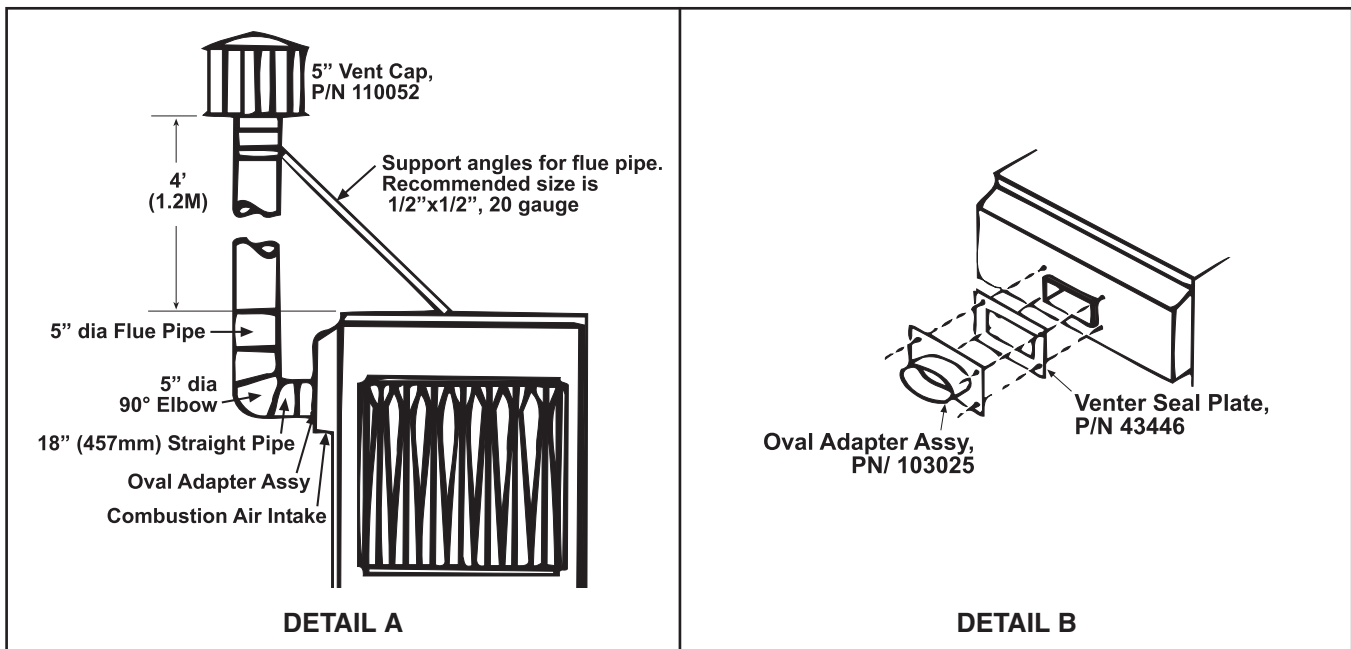

Figure 7. Optional Vertical Flue Discharge
- **Optional vertical flue discharge (option CC3):** These power vented furnaces are certified with 4 feet of vertical pipe connected as shown in **Figure 7**, DETAIL A. The distance is measured from the top of the unit to the bottom of the vent cap. The vent pipe and supports are field-supplied. Optional vertical vent piping provides compliance with local codes that require either 10-foot horizontal or 4-foot vertical clearance between the flue outlet and the fresh air intake of the heating system and/or building. The option package (PN 45021) includes the 5-inch vent cap, the adapter assembly, and the seal plate as shown in **Figure 7**, DETAIL B. Attach venter seal plate and oval adapter assembly with sheet metal screws. Use venter seal plate as drill template.